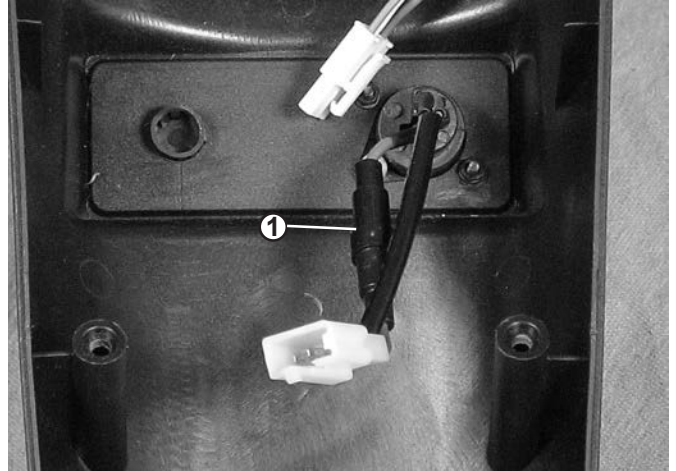

Figure 29. Charger Harness Fuse
2. Remove the eight(8) screws that fasten the back tiller shroud to the tiller.
4. Open the fuse holder located on the red wire **(See #1 on figure 29.)**